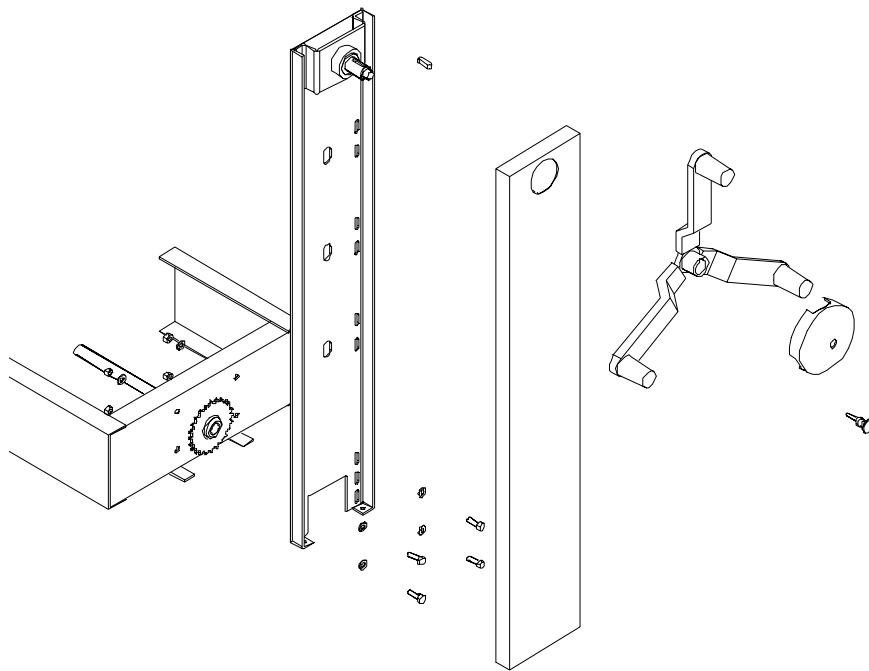

Figure 11
1. Align chain box assembly mounting holes with holes in mobile base at the drive end of the base. (See Figure 11)